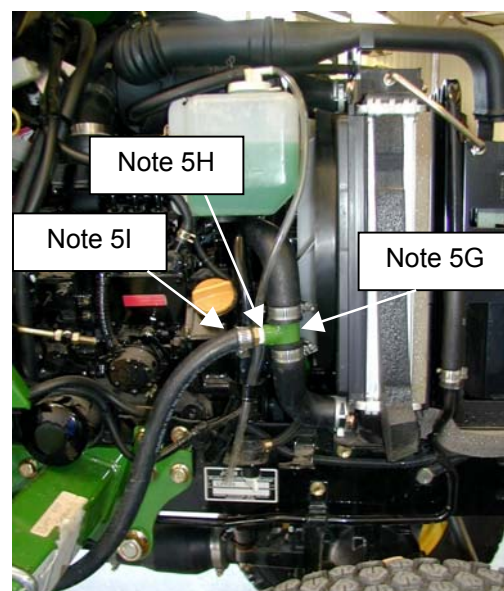

Figure 5G
- G. The lower radiator hose will need to be cut for installation of the lower radiator hose "T" fitting #7-11308. See Figure 5G.
- H. Install 5/8" hose to NPT fitting #3-12119 into the lower radiator hose "T" fitting. See Figure 5G.
- I. Measure and cut the 5/8" heater hose from the right side (Return Line) of the cab with the 90-degree elbow # 3-10282 to the lower radiator hose "T" nipple fitting. See Figure 5G.